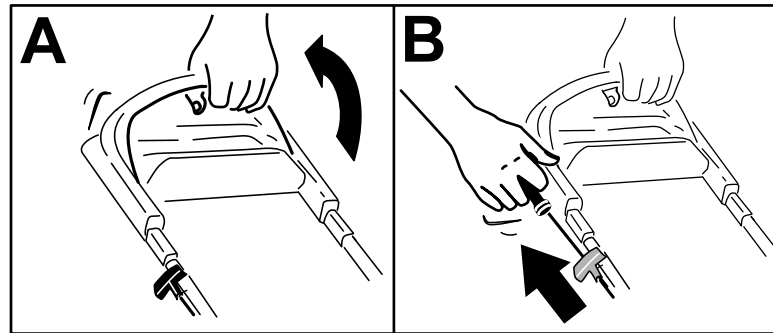

Figure 13
1. Pull the blade-control bar to the handle and hold it (A of Figure 13).
2. Pull the recoil-start handle (B of Figure 13) lightly until you feel resistance, then pull it sharply, and allow it to return to the rope guide on the handle slowly.